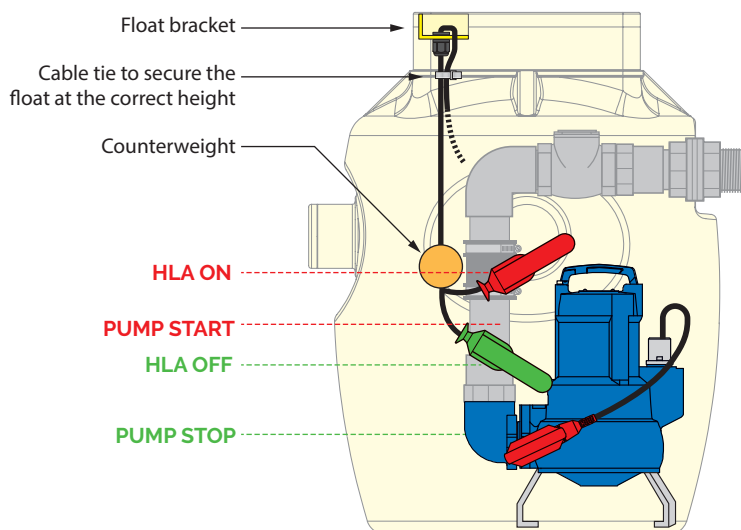

Figure 11. Setting the switching heights of the sump float in a Delta Foul V3 Packaged Pumping Station.
1. Please ensure you position the sump float switch higher than the primary pump activation point contained within, as shown in Figure 11, 12 or 13.